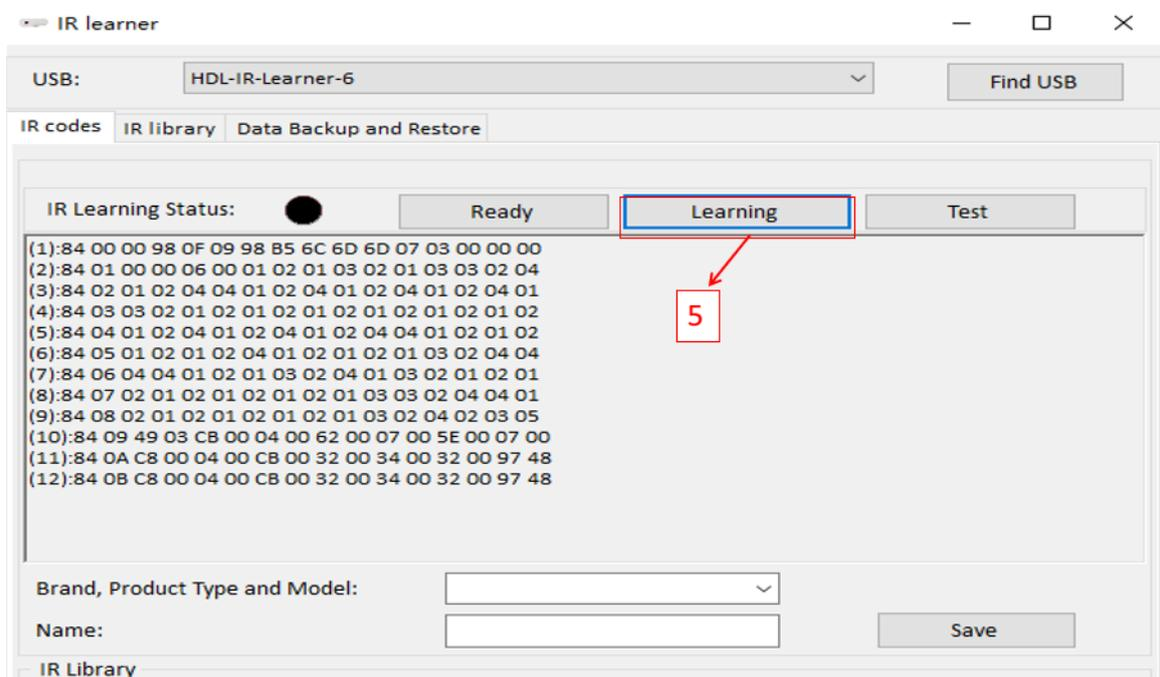

Figure 2-5. IR Learner Learning
Step 5: Click “Learning” to display the code you have learnt. Aim IR learner to IR device, click “Test” to verify the codes. If IR device does not work, need to learn the IR code again. See Figure 2-5 – IR Learner Learning.